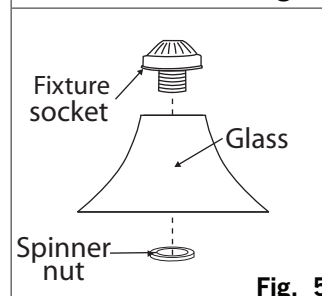

Fig. 5
5. Remove spinner nut from socket. Position glass on lamp and secure with spinner nut. (See Fig.5)